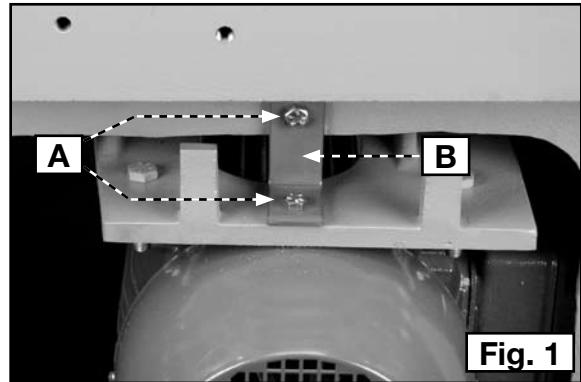

Fig. 1
IMPORTANT - Before assembling this machine, remove the two bolts (A) Fig. 1 and the red shipping strap (B). This bracket protects the motor during shipment.